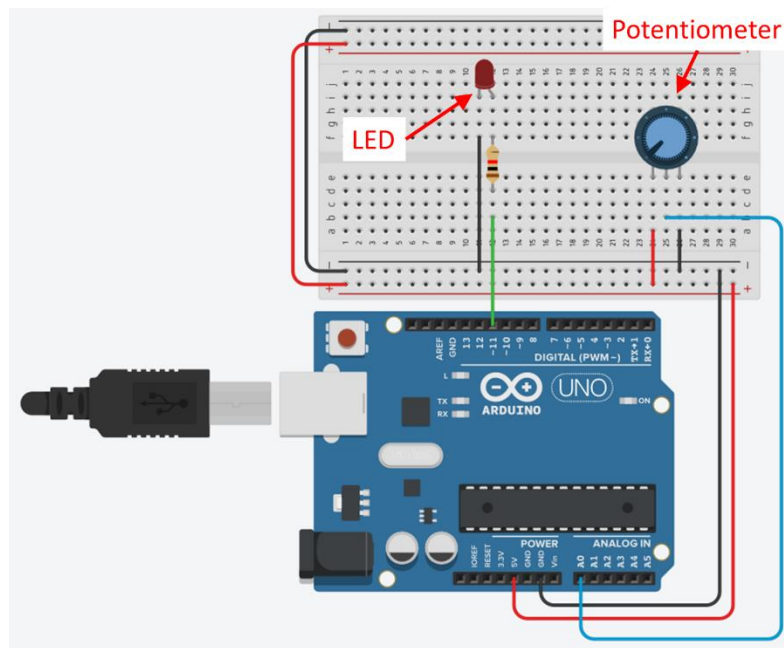
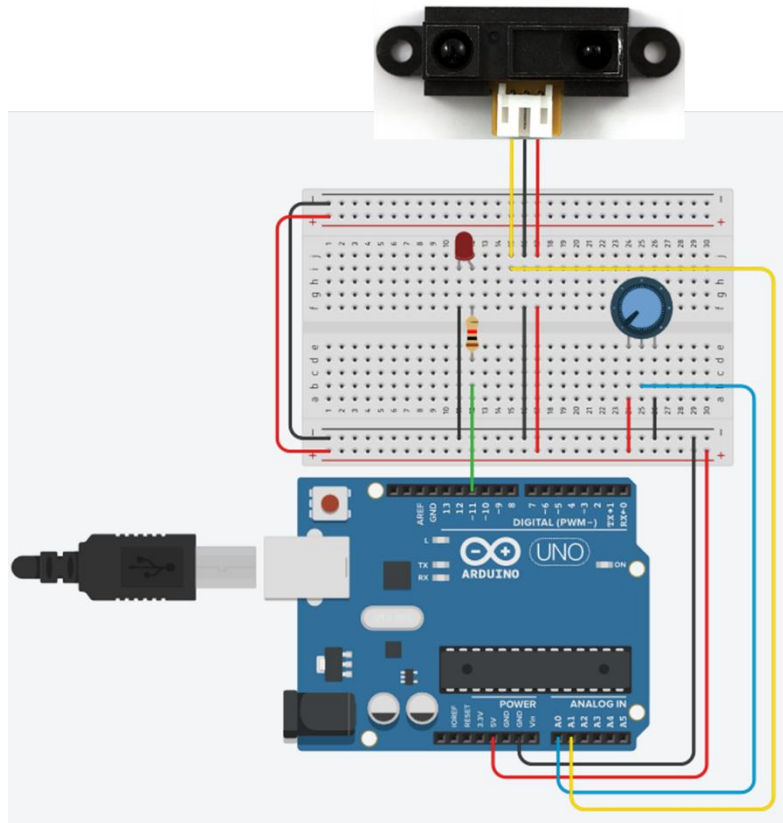

Figure 2. The test circuit used with the potentiometer test program
Figure 3. The Sharp IR distance sensor added to the potentiometer test circuit
2. Build the potentiometer test circuit shown in Figure 2.
1. The starting point for this exercise is the Potentiometer test circuit, as used in the previous exercises and shown in Figure 2.
2. This circuit should be modified, by adding the Sharp IR distance sensor, as shown in Figure 3. Where:
3. Ensure the circuit is wired as shown in either Figure 2 or Figure 3 of this worksheet. (Note: Figure 2 is the same circuit as shown in the “1-D Lookup Table” document.)